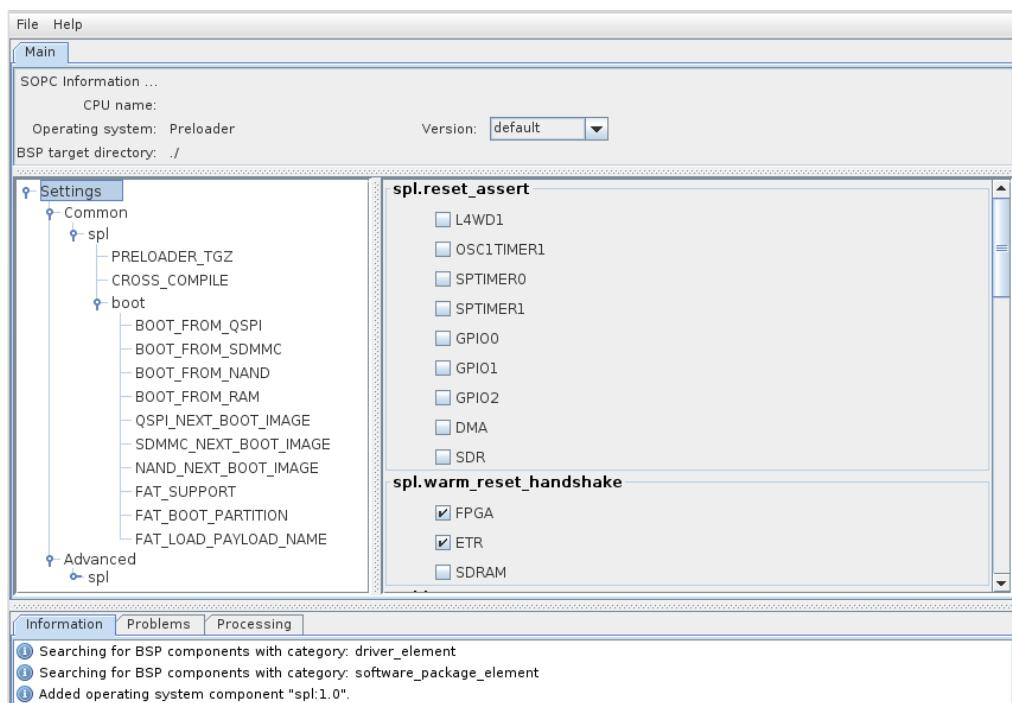

Figure 12-2. Preloader Settings Dialog
- c. Press the “OK” button. You should then arrive on a page with many settings, as shown on Figure 12-2. Take some time to read through them to see what the preloader has the ability to do.
3. On the main settings page of Figure 12-2, we will only need to modify 3 parameters for our design.